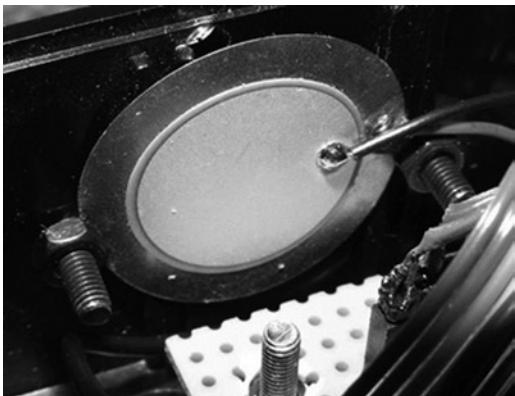

Figure 11-14. Detail showing the piezo mount
- The piezo electric speaker is held onto the side of the control box by two small bolts (see Figure 11-14). This results in a maximum loudness from it. You could drill a cluster of small holes in the box side to let more sound out, as I did, but I didn't find that made much difference in the end.